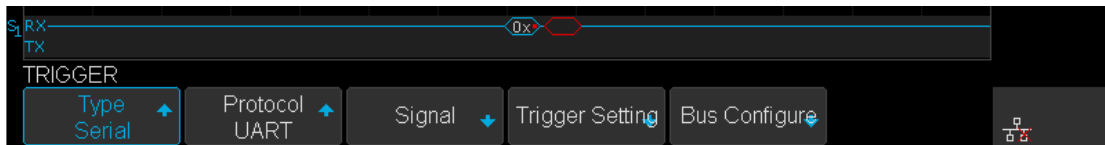

Figure 58 UART Decode Bus Display
4. Press the **Signal** softkey to enter the **SIGNAL** menu as Figure 58 shows.